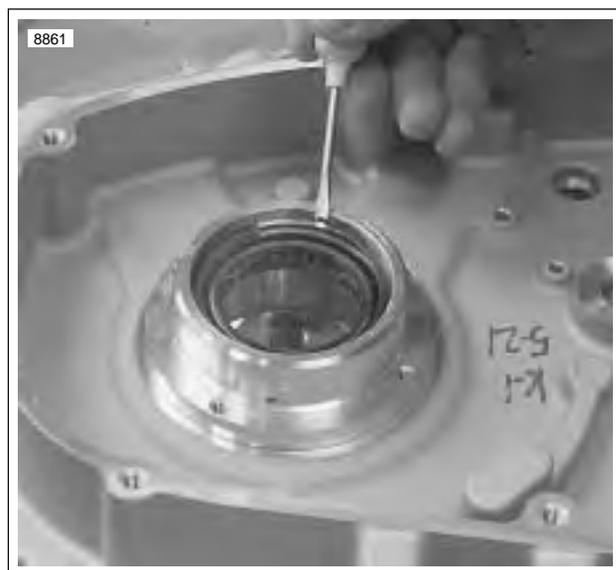

Figure 3-137. Left Main Seal Retaining Ring
- See Figure 3-137. Remove left main oil seal retaining ring.